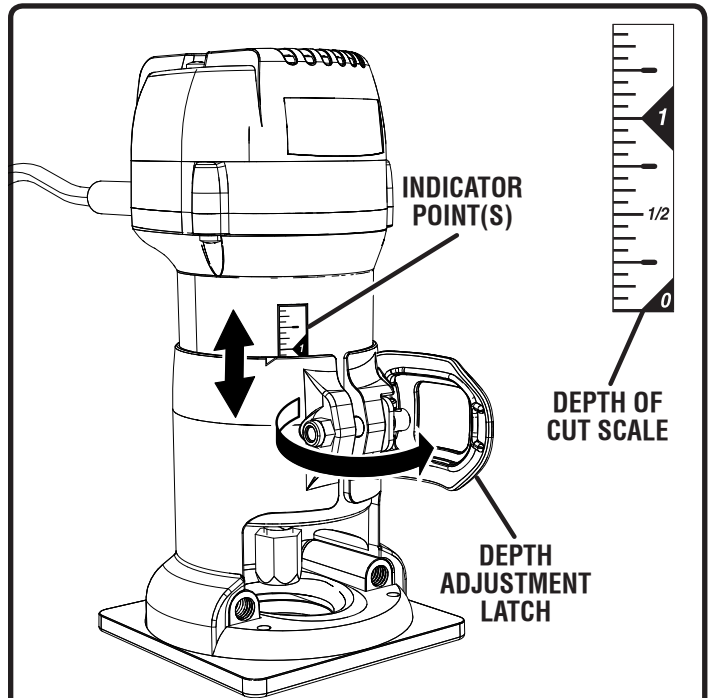

Fig. 10
See Figure 10.
- Open the depth adjustment latch as indicated by the arrow in figure 10.
- Adjust the position of the trimmer to obtain the desired depth of cut by moving the motor housing section up or down, as shown by the up/down arrow in figure 10. The distance the cutter moves can be read on the depth of cut scale. Each mark on the scale indicates a 1/16 in. (1.6 mm) change in depth setting. Indicator points are located on the base.